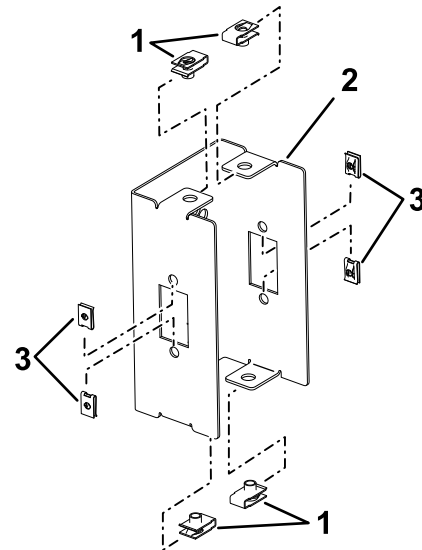

Figure 7
2. Install the small speed nuts to the sides of the light bracket (Figure 7).
1. Install the large speed nuts to the top and bottom of the light bracket (Figure 7).